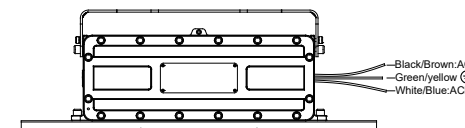

Figure 0-4
7. Please complete wiring with suitable listed water proof conduit fitting and conduit as per local standard, and make sure there is a good joint protective measures.(Figure 0-4)